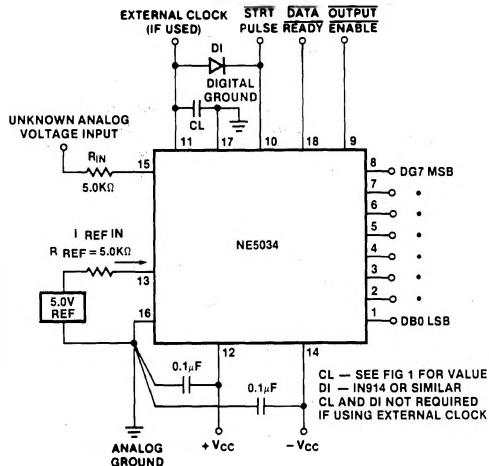

FIGURE 4.
An external capacitor between this pin and ground generates the internal clock pulses. (See diagram for clock frequency vs capacitor value). In order to synchronize the internal clock, to the start pulse a diode (small signal type e.g., 1N914) should be connected between \overline{STRT} and CLK IN (see Figures 4 and 5). Without this diode the start pulse could occur at a time which could cause one of the conditions described in the Note on "set up" time. Applying an external TTL- or MOS-compatible clock to this pin slaves the NE5034 to external clock frequency. In this case, the diode is not required but the "set up" time requirements should be noted.
- Adjust the voltage applied to $V_{REF IN}$ (Figure 4) until the LSB varies between '0' and '1', and all other data outputs stay '1' after each conversion.
A standard connection for a 0 to 10V unipolar binary operation, with $V_{REF IN}$ equal to +5 volts, is shown in Figure 4. The NE5034 can quantize full scale ranges of 1V to 10V. It should be noted, however, that for smaller full scale ranges, the accuracy and speed will degrade.